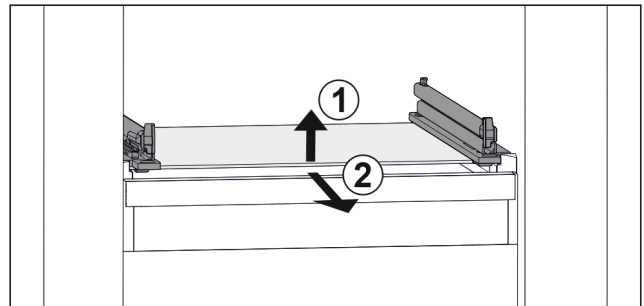

Fig. 162 Example illustration of glass shelf
- Lift glass shelf at the front. Fig. 162 (1)
- Remove glass shelf to the front. Fig. 162 (2)